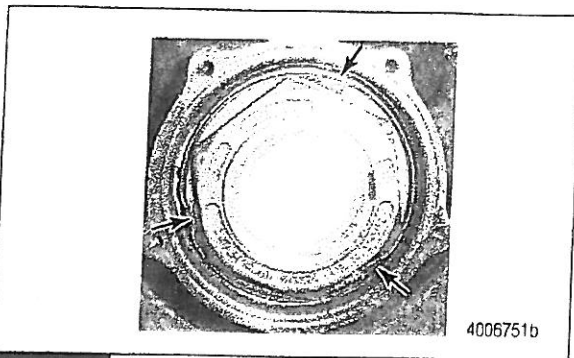
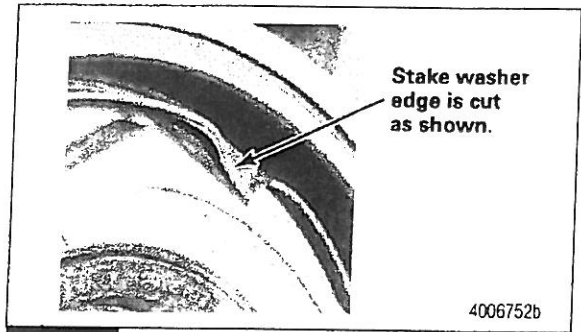

Figure 12
Figure 13
10. Use a hammer and staking tool (part number AM21225831) to stake the stake washer to the nut in three positions. Bend the washer to the stake profile as shown. Figure 12 and Figure 13.